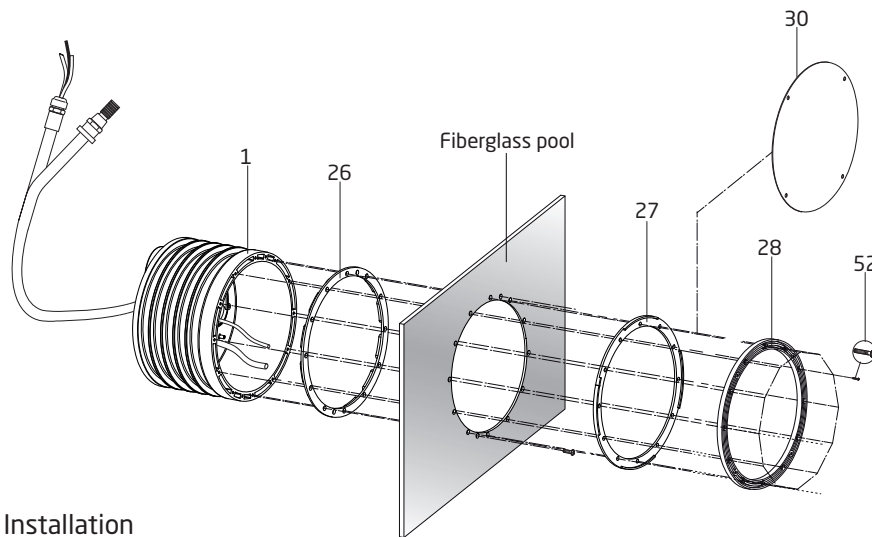

Figure 12
5. Align the clamping ring gasket (part# 27) on the inside of the pool wall (or on liner) as shown in Figures 12 & 13. Be sure the ribs on the outer edge of the gasket are facing away from the pool wall and are positioned as shown.